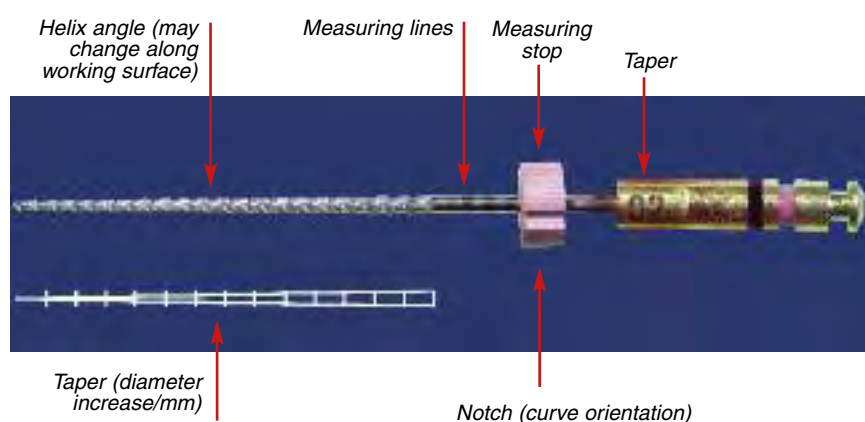

Fig. 1: A size 25 file with a 0.02 taper.
• **The taper:** Standardized dimensions played an important role at the time they were instituted for providing the needed consistency for hand instruments, but were soon seen as limitations for rotary instrumentation. One of the first standards for file design to be eliminated was file taper. The taper is usually expressed as the amount the file diameter increases each millimeter along its working surface from the tip toward the file handle. For example, a size 25 file with a 0.02 taper would have a 0.27 mm diameter 1 mm from the tip, a 0.29 mm diameter 2 mm from the tip, and a 0.31 mm diameter 3 mm from the tip (Fig. 1). Some manufacturers express the taper in terms of percentage, in which case the 0.02